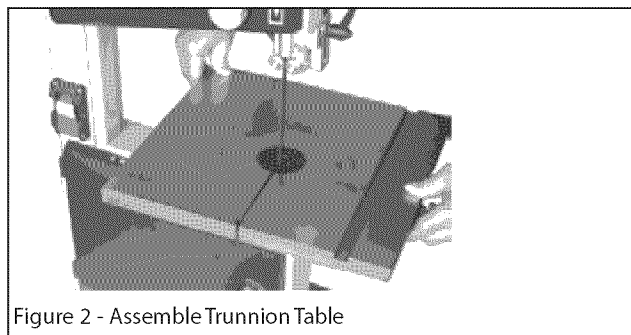

Figure 2 - Assemble Trunnion Table
- Assemble the upper table trunnion to the lower table trunnion with carriage bolt, glide piece, washer and wing nut. Place the table on to the upper table trunnion, taking care when passing the saw blade through the slot of the table (see Figure 2).